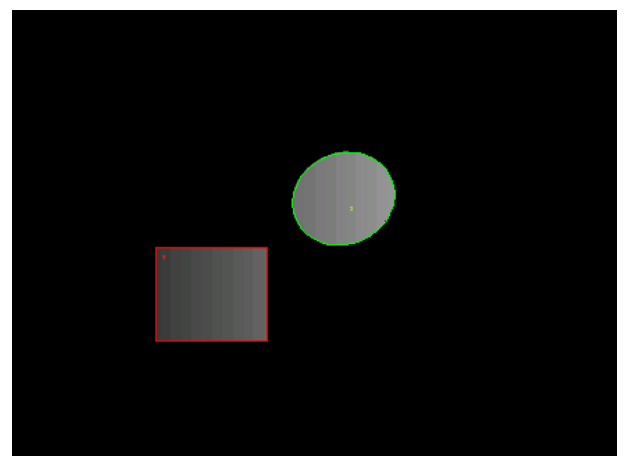

Fig. 156 Image which two defined regions, one selected
E.g., if Acquisition is checked, it is only the region that is illuminated (**LSM imaging** mode only) and displayed (Fig. 156). Any combination of these tasks is possible.